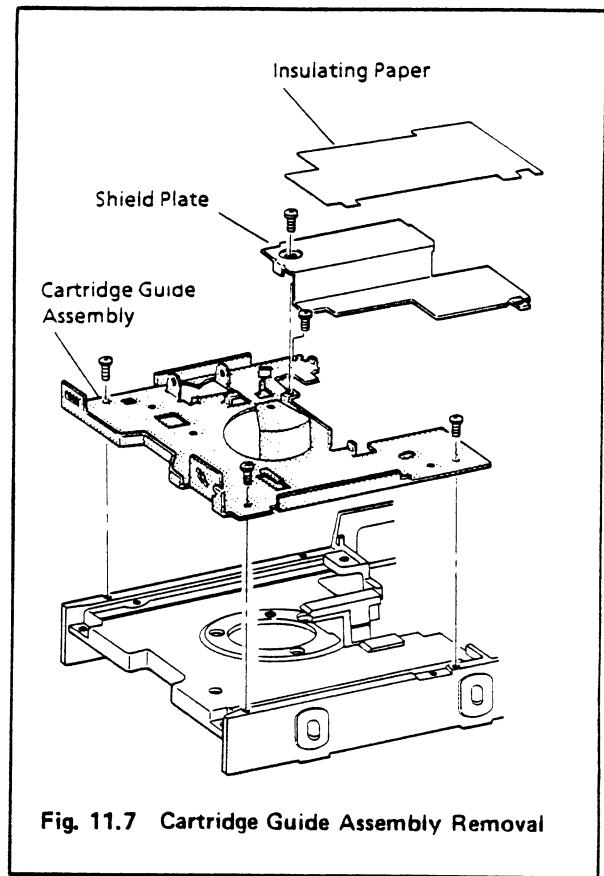

Fig. 11.7 Cartridge Guide Assembly Removal
11.7 Cartridge Guide Assembly Removal and Installation (See Fig. 11.7)